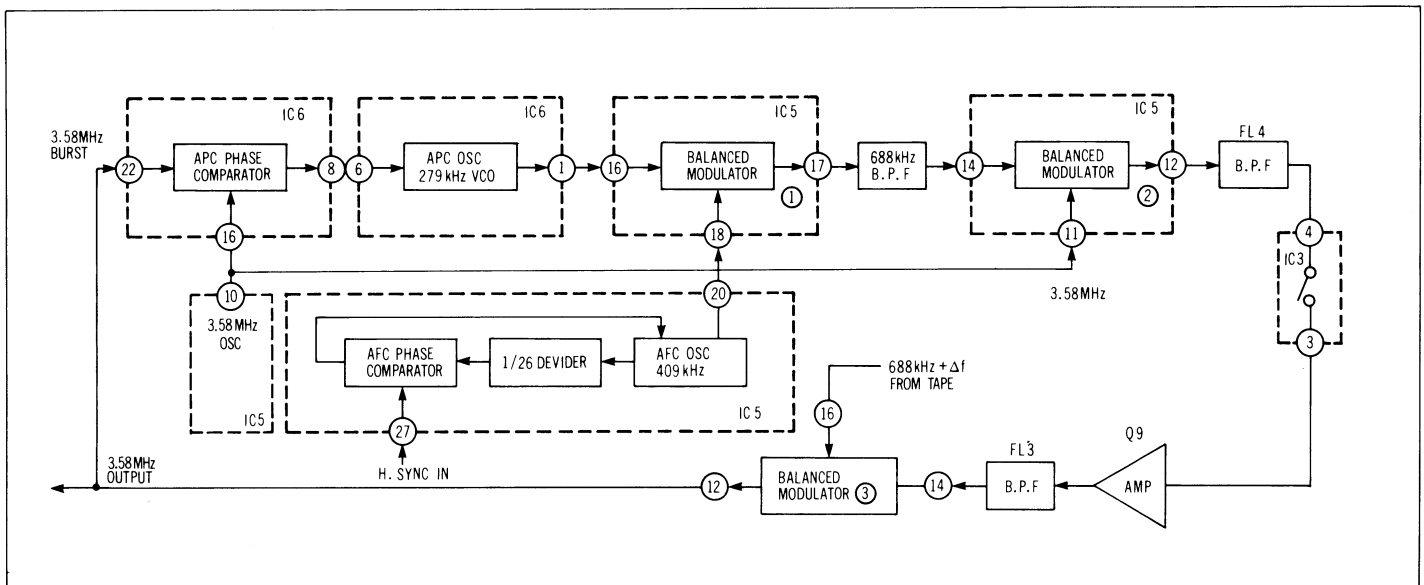

Figure 2-116
The APC loop encompasses the rest of the $4.27 \text{ MHz} + \Delta f$ Generator circuitry (refer to Fig. 2-116) and its purpose is to control the APC oscillator (279 kHz VCO) so that when its output frequency is added to the frequency of the AFC oscillator by Balanced Modulator (1), the sum equals $688 \text{ kHz} + \Delta f$, exactly the input frequency. With the APC and AFC loops open, a frequency of 688 kHz would be generated at the output of balanced modulator (1). The Δf portion is added once the loops are closed.